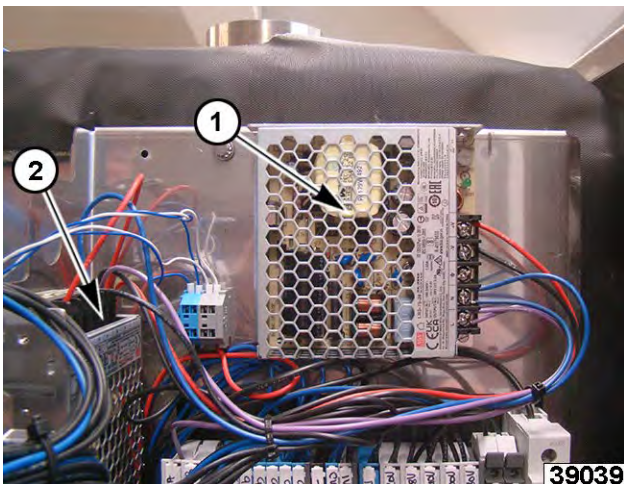

Fig. 47
- Switch Power Supply for Cavity Door Light, Solenoids, and optional Grease Gun (Ta on diagram) (1, Fig. 47).
- Switch Power Supply for I/O Board 24 DC (Tc on diagram) (2, Fig. 47).